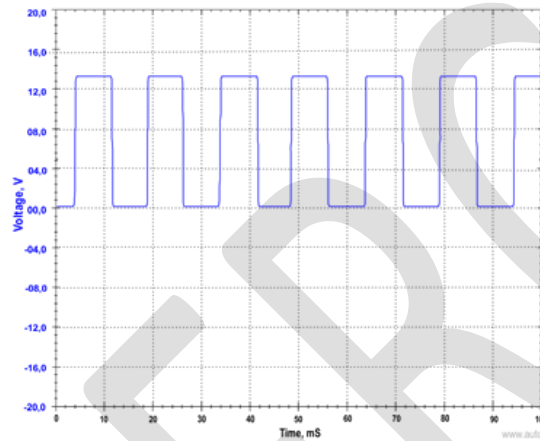

Fig. 2
- On the oscilloscope screen you must observe the following signal (fig. 2).